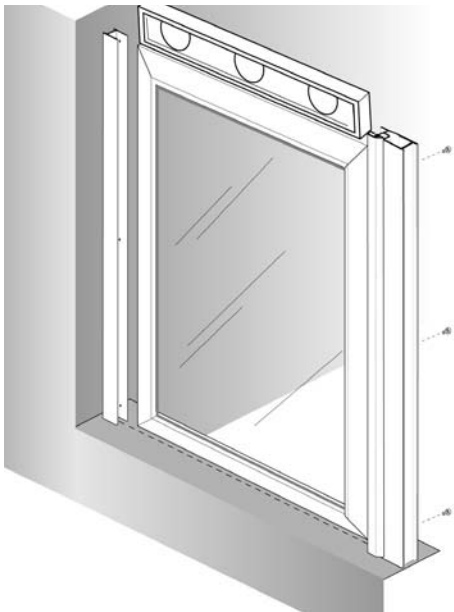

Figure 3
- B. Lift the door and slip the CW® Rotary Gear Hinge Assembly (#1) over the Slip Jamb Male (#2) secured to the wall opposite the shower head. Use your level to adjust the Framed Door with CW® Rotary Gear Hinge Assembly (#1) so that it is aligned true and plumb, up and down. (See Figure 3).
- C. Step into the shower. Holding the door in place, use a 7/64" Drill Bit to drill a hole 6" down from the top of the CW® Rotary Gear Hinge Assembly Hinge Jamb (#1) and into the Slip Jamb Male (#2). Drill another hole 6" up from the bottom and also one in the middle. Secure the Framed Door with CW® Rotary Gear Hinge Assembly (#1) to the Slip Jamb Male (#2) with the three #6 x 1/4" "B"-Point Screws (#13). (See Figure 3).